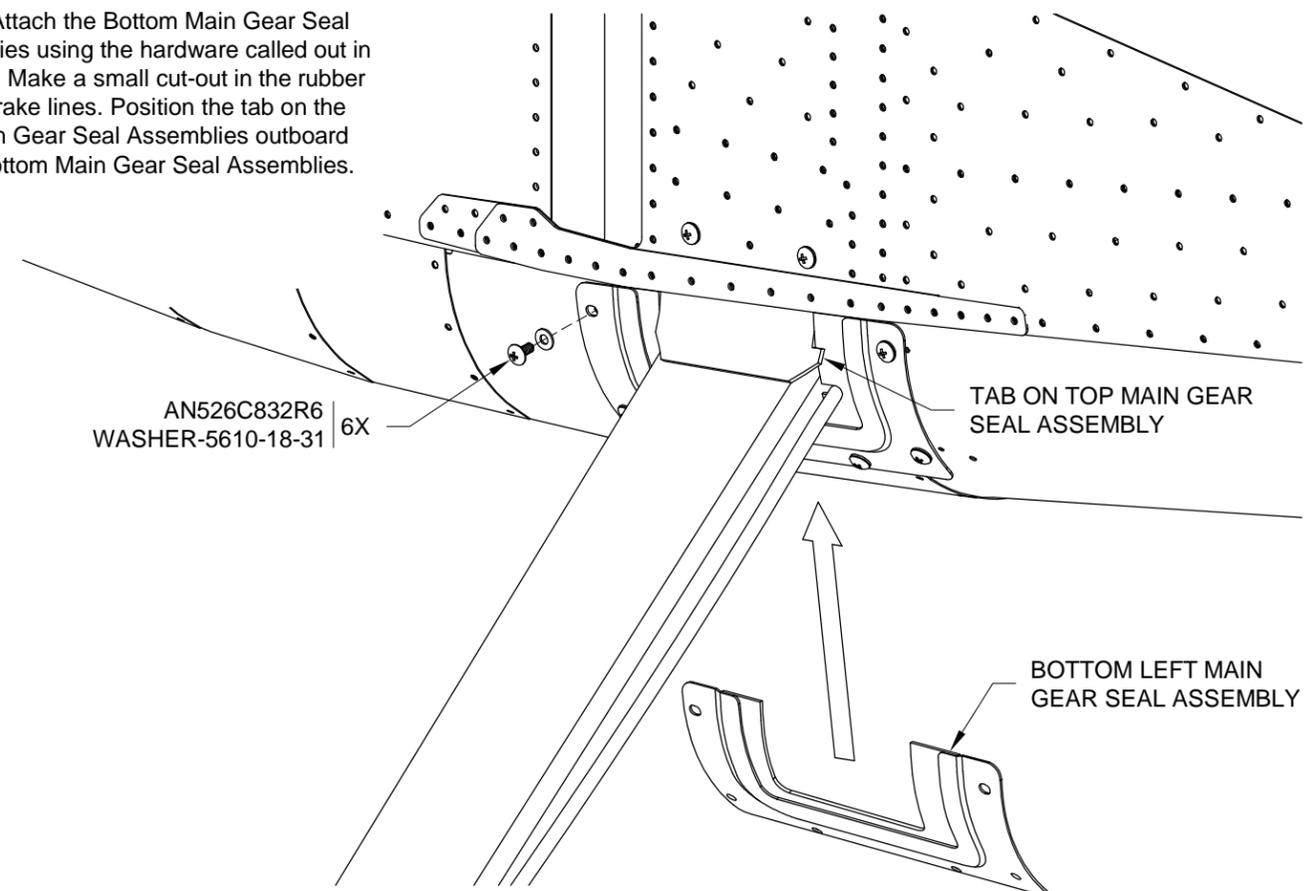

FIGURE 4: ATTACHING THE BOTTOM MAIN GEAR SEAL ASSEMBLIES
Step 5: Attach the Bottom Main Gear Seal Assemblies using the hardware called out in Figure 4. Make a small cut-out in the rubber for the brake lines. Position the tab on the Top Main Gear Seal Assemblies outboard of the Bottom Main Gear Seal Assemblies.